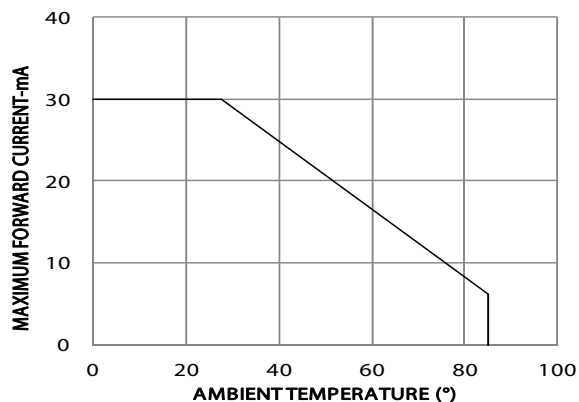

Figure 4: Maximum Forward Current vs Ambient Temperature
1. Derate linearly as shown in Figure 4